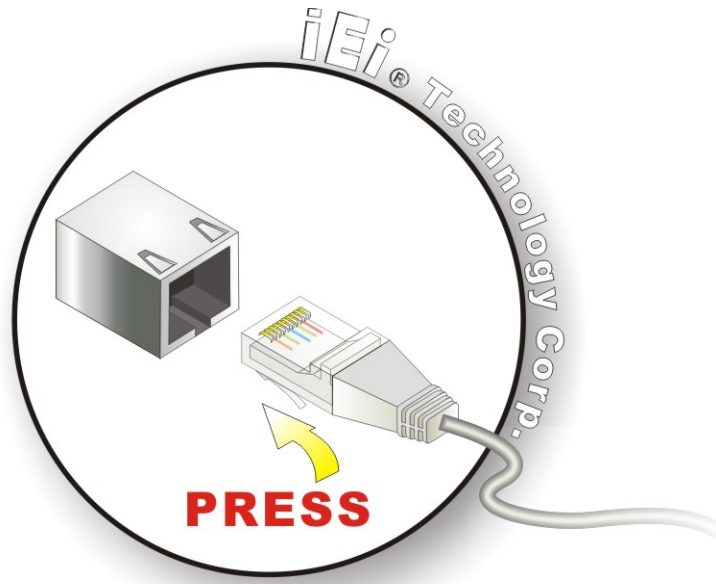

Figure 4-22: LAN Connection
Step 2: Align the connectors. Align the RJ-45 connector on the LAN cable with one of the RJ-45 connectors on the SPCIE-5100DX. See **Figure 4-22**.